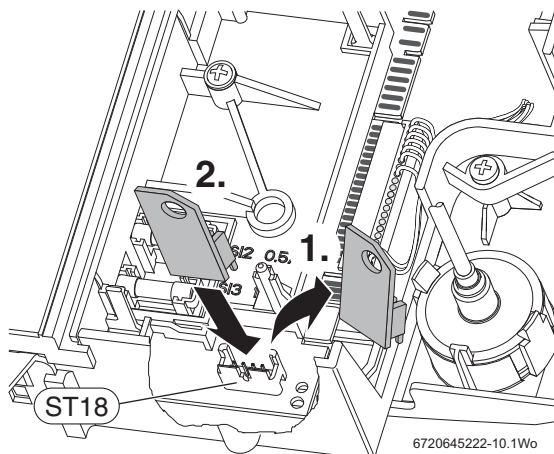

Fig. 14 Fitting new code plug
1. Refer to figure 14 and remove the code plug from the controller, cut the tie securing the plug to the boiler chassis and discard the plug and tie.